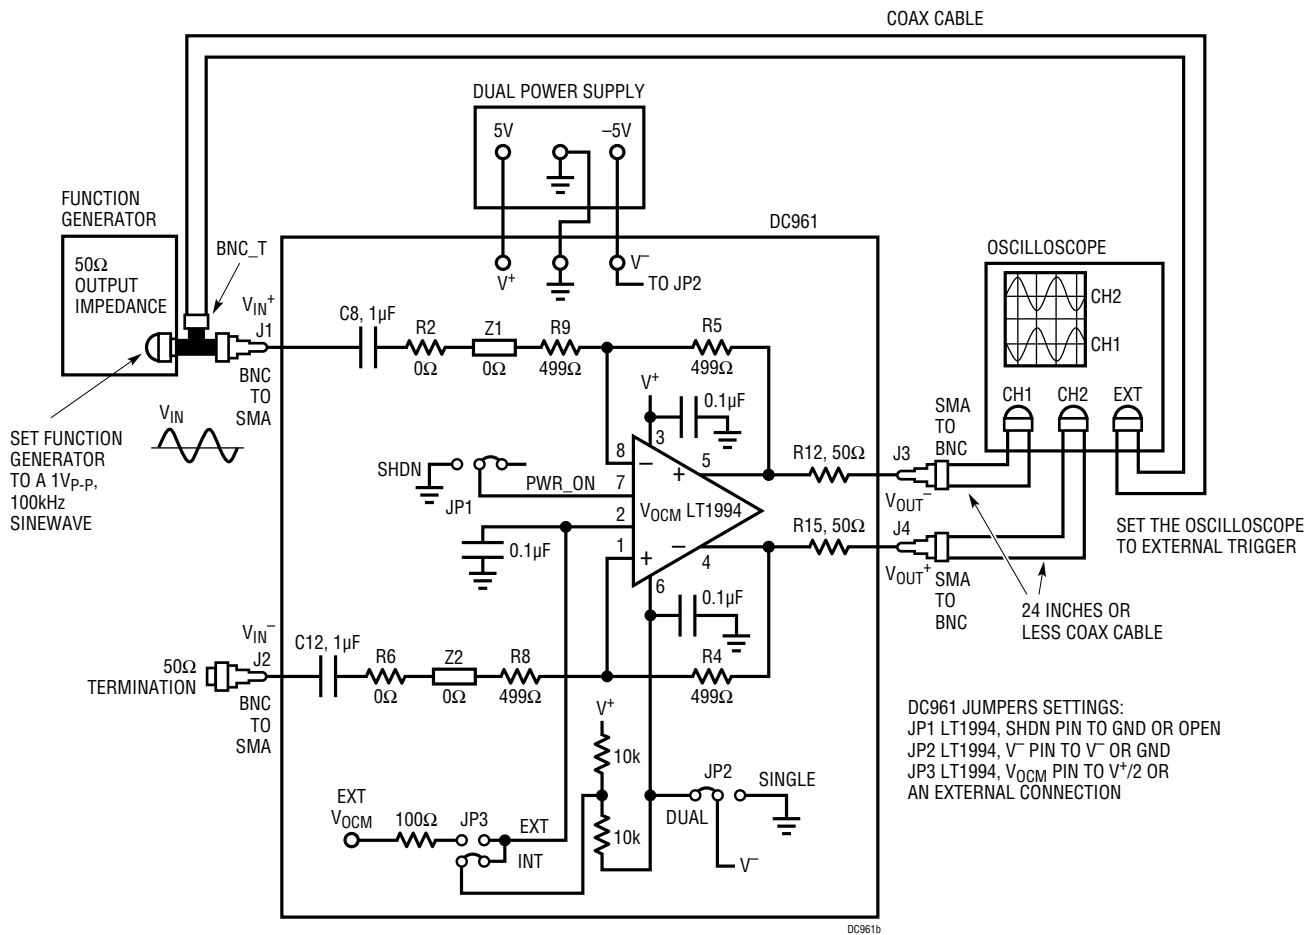

Figure 3. Single-Ended Input to Differential Output Quick Test Setup
1. Connect to a DC961 a dual power supply, a function generator and an oscilloscope as shown in Figure 3 (the  $50\Omega$  termination on J2 input is used to balance the  $50\Omega$  generator impedance on J1 input).